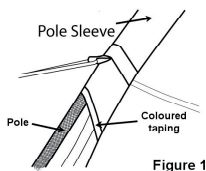

Figure 1
3. Taking the assembled poles in turn, gently PUSH them through the pole sleeves in the flysheet with the same colour tapping as the mid section of the pole (see Figure 1). The storm cap that is attached to the main diagonal pole sleeves on the flysheet may need to be unfastened so that the poles may be readily installed. Remember to re-clip the storm cap before proceeding. Where possible avoid standing on the flysheet, as this will damage it. Do not continue until all the poles have been pushed through the sleeves in the flysheet.